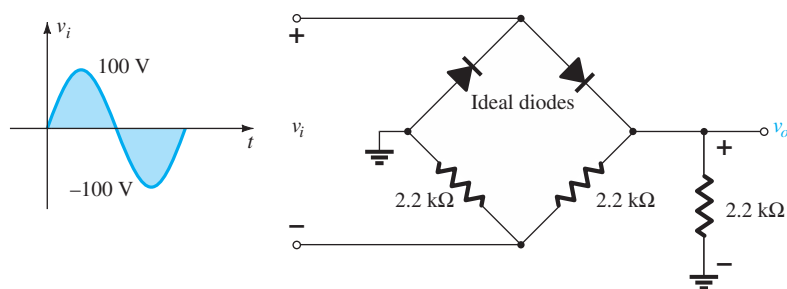

FIG. 2.174
- *30. Sketch v_o for the network of Fig. 2.174 and determine the dc voltage available.